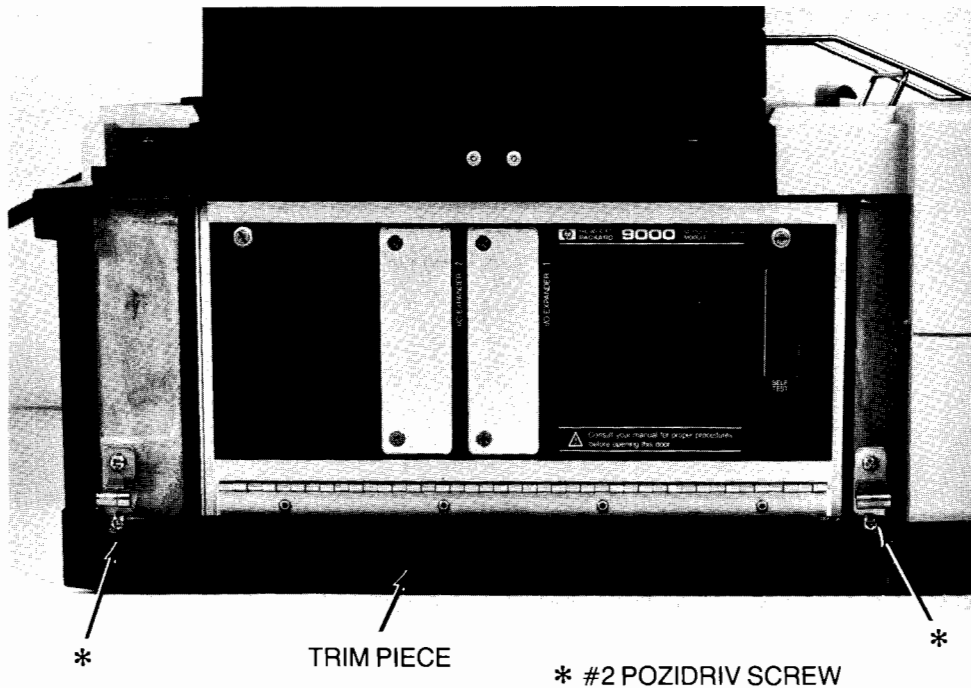

Figure 4-19. Removing Trim Piece
3. Loosen two #2 Pozidriv screws that hold trim piece to left side of computer (Figure 4-19) just far enough to remove trim piece. Remove trim piece by pulling straight off while leaving screws in place on computer.
4. Loosen two #2 Pozidriv screws that hold trim piece to left side of computer (Figure 4-19) just far enough to remove trim piece. Remove trim piece while leaving screws in place on computer.